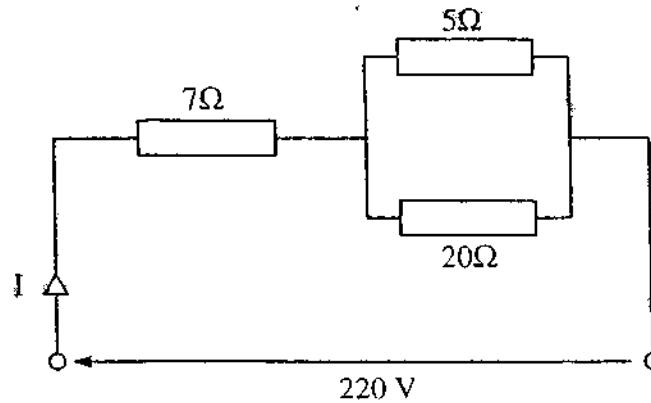

Fig. Q.8
7. (a) State the THREE main effects of an electric current. (3)
- (b) State TWO practical applications of EACH effect in Q.7(a). (6)
8. For the circuit diagram shown in Fig. Q.8, calculate EACH of the following:
- (a) the pd across the $7\ \Omega$ resistance; (5)
- (b) the current through EACH resistor. (4)